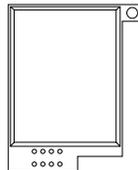

Figure 8. Securing lug on 934 module
3. Secure the module in position with a screw through the lug in the top-right corner (Figure 8).